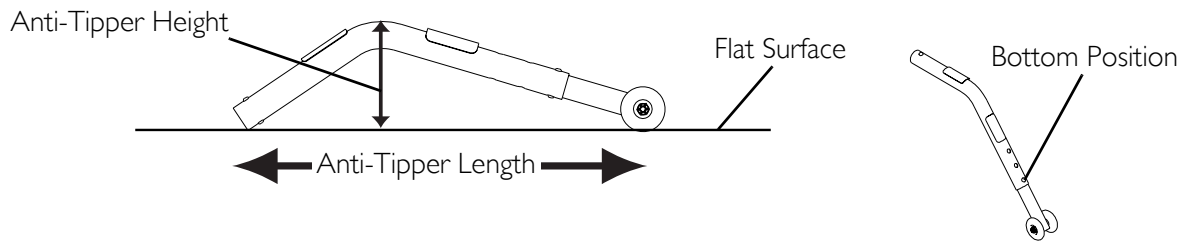
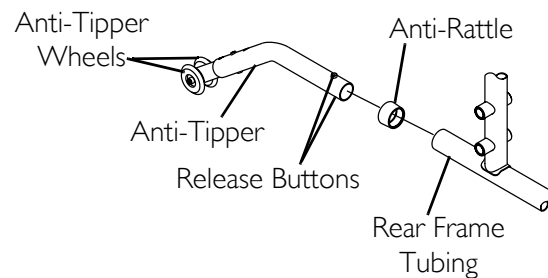

FIGURE 9.1 Installing/Adjusting Anti-tippers - Anti-Tipper Length
FIGURE 9.2 Installing Anti-Tippers
NOTE: For this procedure, refer to FIGURE 9.1 on page 47 and FIGURE 9.2 on page 47.
NOTE: To ensure the correct model anti-tipper is used refer to FIGURE 9.1. Measurements for anti-tippers are approximate and are taken with extension tube in bottom hole position.
1. Press the release buttons and insert the anti-tippers with the anti-tipper wheels pointing toward the ground/floor into the wheelchair frame tubing as shown in FIGURE 9.2.